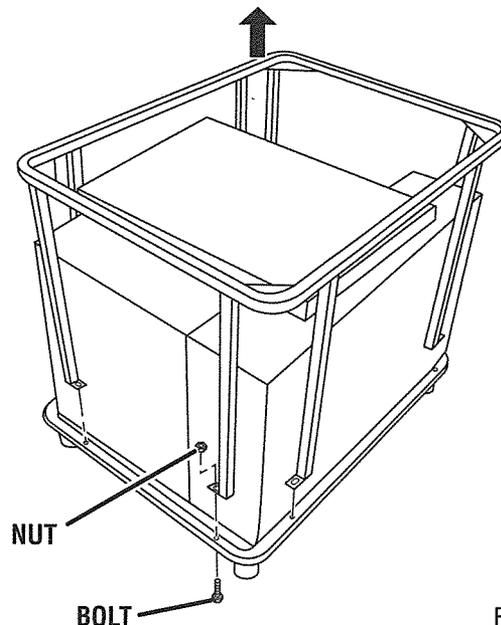

Fig. 10
- Loosen and remove the nuts and bolts securing the sides of the shipping crate to the bottom of the crate as shown in figure 10. Remove the crate.